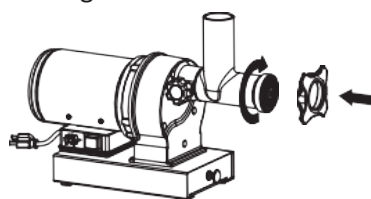

Fig. 5
- Firmly screw the ring cap onto the grinder head. Do not over tighten. (See Fig 5)